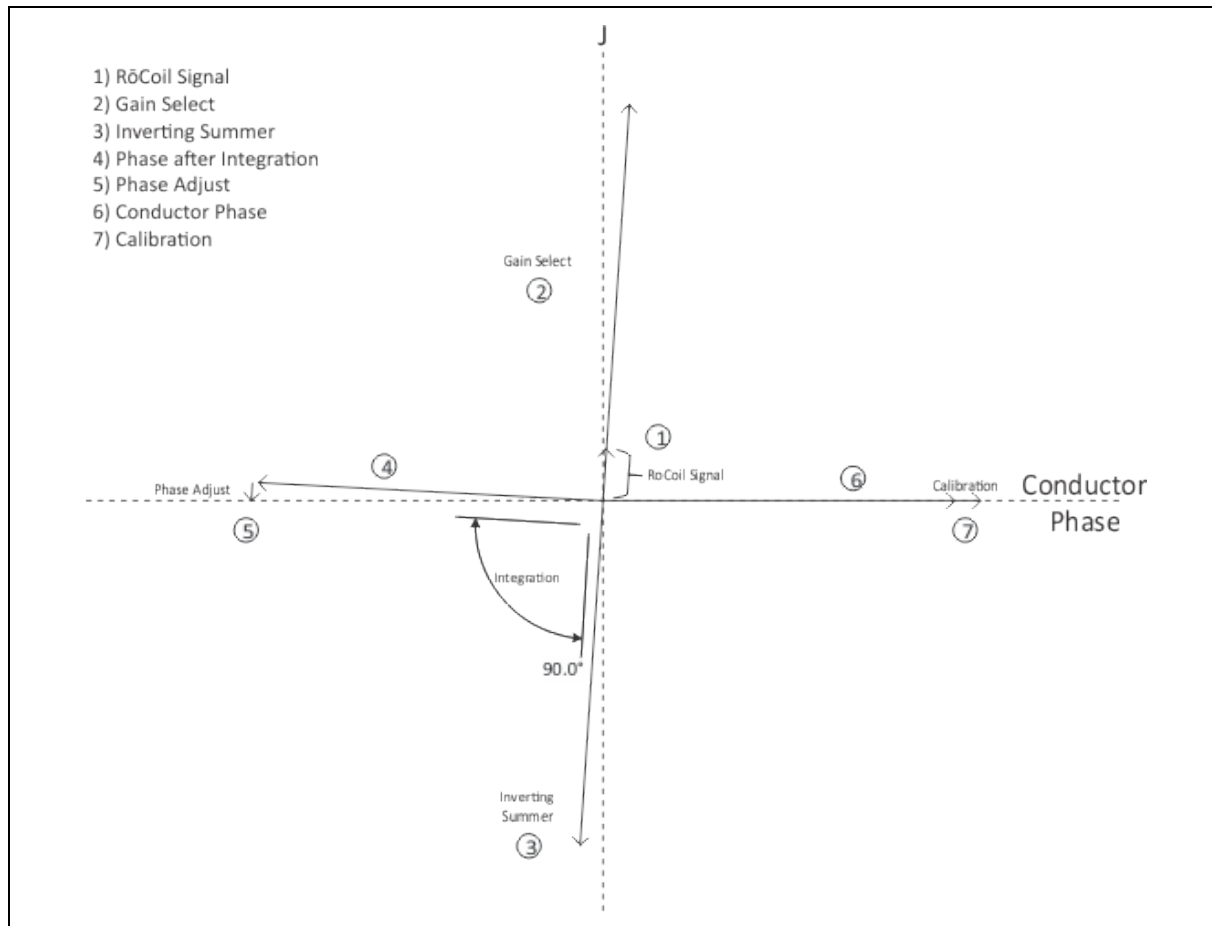

Figure 3-1: RōCoil TCA™ Vector Diagram
The operation of the RōCoil TCA-5 is best expressed using vector notation and is illustrated as a vector diagram in Figure 3-1, next page. The voltage generated by the RōCoil sensor leads the current flowing in the measurement conductor by almost 90 degrees (angle exaggerated for clarity), labeled (1). The positive X axis (0 degrees) is the current vector of the conductor being measured.
The RōCoil TCA-5 range selection slider switch selects the primary gain of the amplifier. Internal feedback with gains of 1, 2, 5 and 10 are selected using laser trimmed precision resistors within an inverting precision operational amp circuit (shown as vectors 2 and 3 in Figure 3-1). The Current Range Selector is normally set to the nearest value over the size of the breaker feeding the load being measured. For example, the 1000 amp setting would be used with an 800 amp service breaker. If the size of the load is known to be much smaller than the service capacity, better accuracy can be obtained by selecting the range closest to the actual usage.